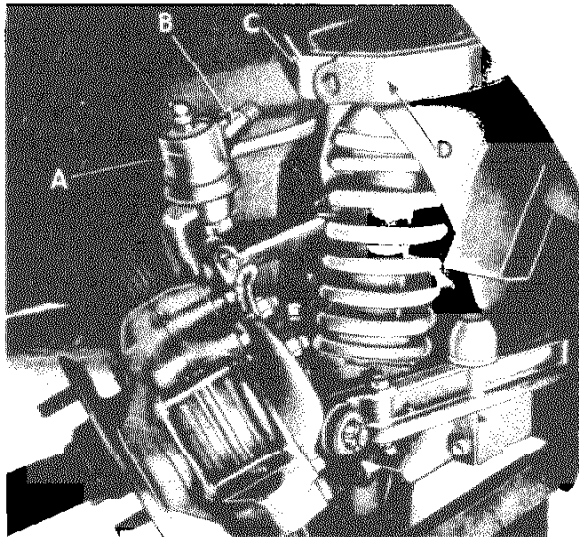

Figure M7.
- (ii) That the wishbone arms are offered up to the rubber bushes and the outer wishbone ends allowed to interlace so that with the fulcrum pin away from the handler the R.H. wishbone arm overlaps the L.H. wishbone arm. Fig. M7.